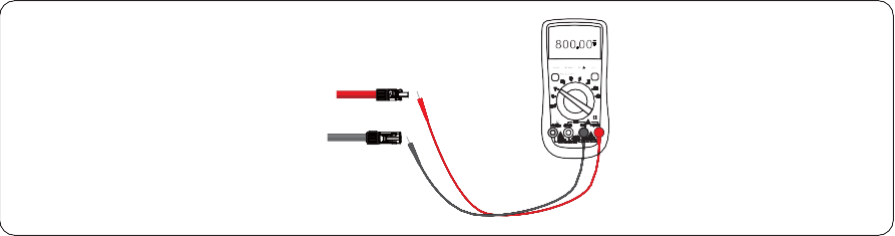

Figure 5.12 Checking the voltage of every route Strings
**Step 5** Measure the voltage of every route Strings using a multimeter. Ensure that the polarities of the DC input power cables are correct, as shown in Figure 5.12.